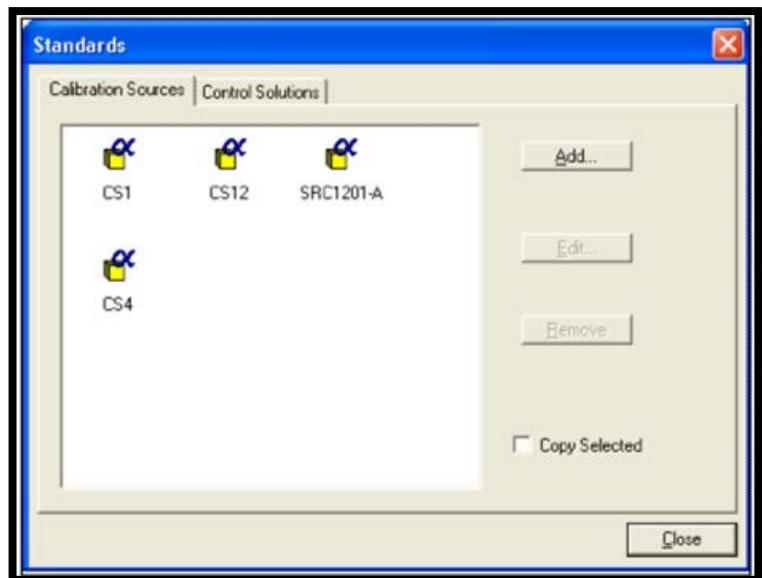

Figure 66. Standards Dialog
- 2) From the menu bar, select **Edit/Standards**. This will open the Standards dialog (Figure 66).